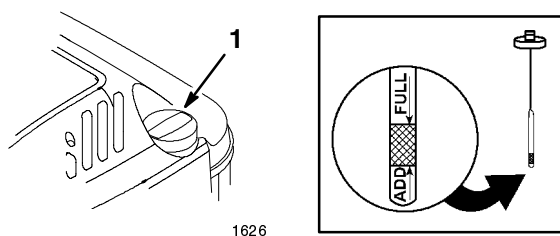

Figure 5
Before each use, make sure that the oil level is between the *Add* and the *Full* marks on the dipstick (Fig. 5).
- Clean around the dipstick (Fig. 5).
- Read the oil level on the dipstick (Fig. 5).